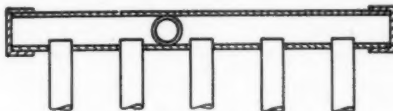

Fig. 2—Weir Type Header
2. *The Weir type distributor header:* In this type of header a baffle, or tube extension over which the liquids must flow, is inserted into the distributor header. Here the liquid refrigerant is permitted to separate from the gas and then spills over into each outlet tube. Fig. 2.